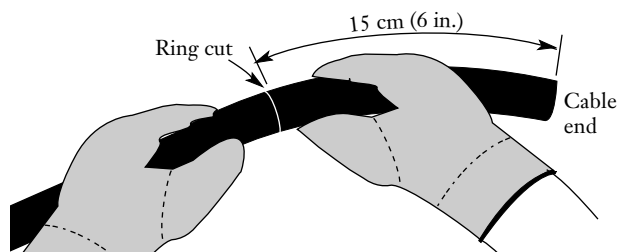

Figure 16
**6.4** Gently bend the cable at this second ring cut to break the armor (Figure 16). **DO NOT** violate the minimum bend radius of the cable during this step.